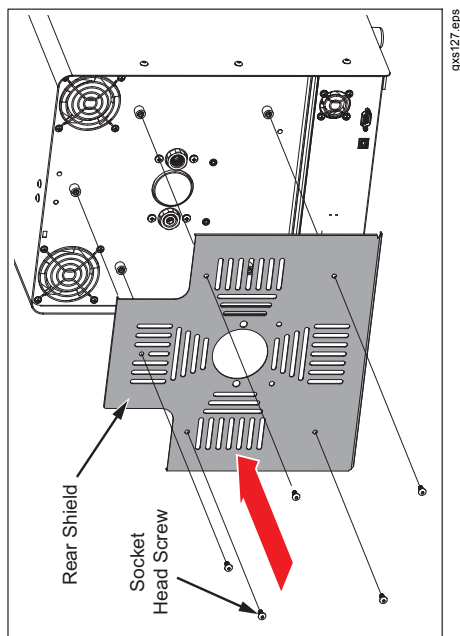

Figure 9. Attach the Rear Shield
4. Attach the rear shield with the five socket-head screws. See Figure 9.